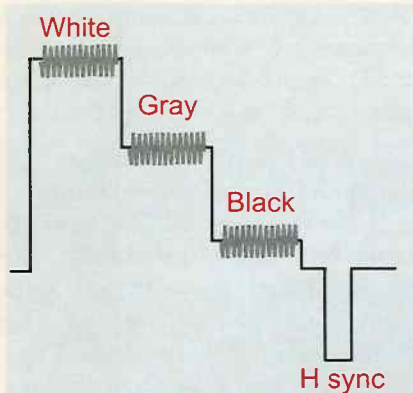

Fig. 8: Amplitude noise in the video signal adds non-brightness related changes to the original scene.
**Video Noise:** Ideally, the camera circuits which produce the video signal don't add any noise to the signal. However, the circuits do add both amplitude and phase noise, at least in small quantities. Since the phase of the video signal carries little information, only the amplitude noise causes problems. This amplitude noise adds changes to the video signal which aren't related to the brightness level changes in the original scene (Fig. 8).